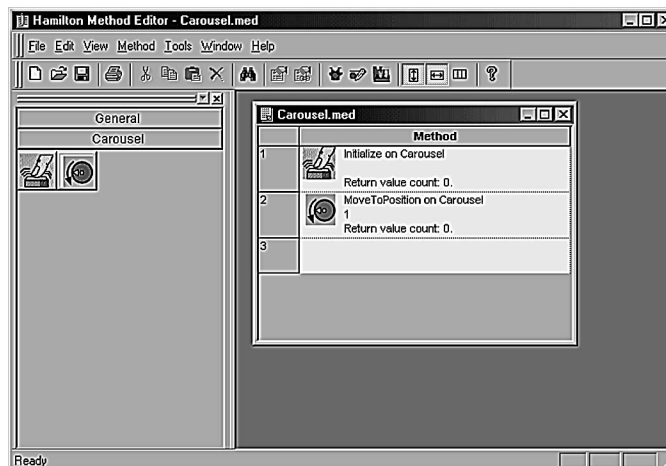

Figure 19: Method Editor with instrument icons command set
6. Click on the instrument command bar (Carousel). The command set for that instrument will appear (figure 19).